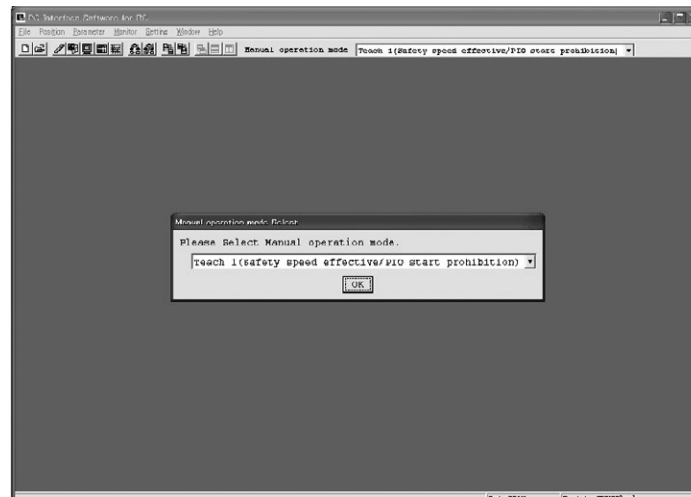

Fig. 1.51 Manual Operation Mode Select Window
- [5] When a check for the connected axis is completed, the main window is displayed, and at the same time, a window to select Manual operation mode shown in Fig. 1.51 is displayed. Select the operation mode according to the purpose and press **OK**. Hereinafter, select the operation mode according to the purpose of operation.